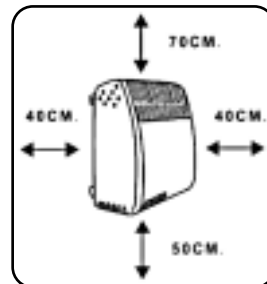

Figure 1
- The safety clearances according to Fig. 1 and the statutory safety clearances must be preserved during assembly.
- Pay attention to the necessary safety clearances (Fig.1). Make sure there is a minimum clearance of 70cm if the device is fitted under a shelf.